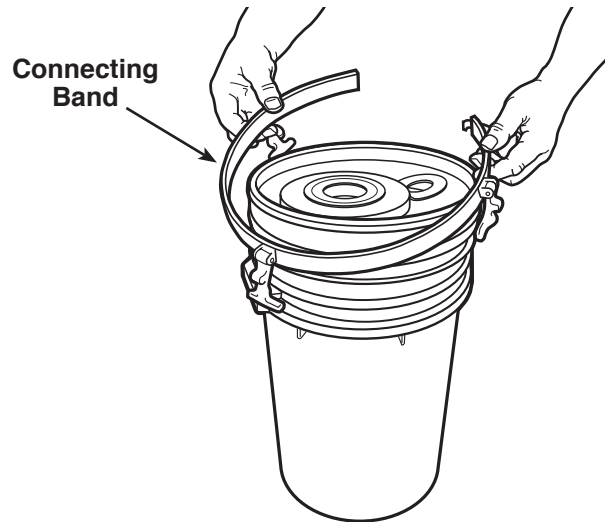

Figure 12
6. Open the latch on the connecting band and remove it from the old filter. See Figure 12.